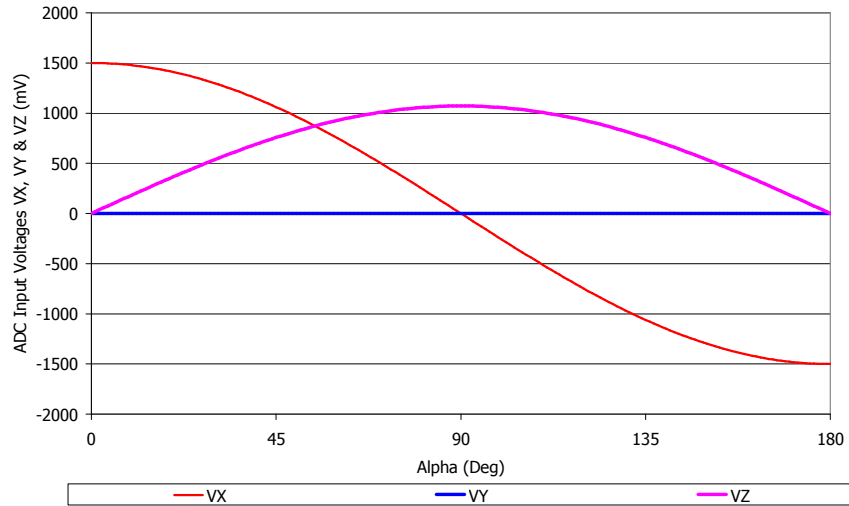
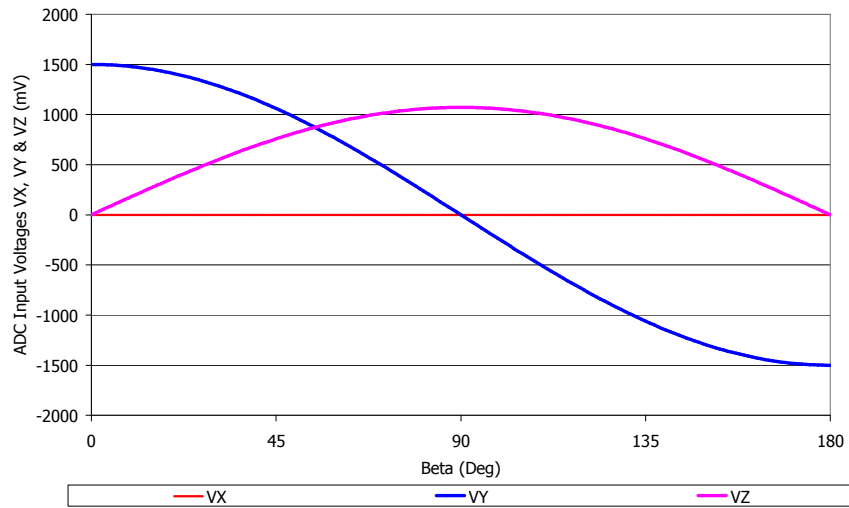

Figure 8 – ADC Input Signals – $\beta = 90^\circ$ Deg – $V_X \propto B_X \propto \cos(\alpha)$, $V_Y = B_Y = 0$ & $V_Z \propto B_Z \propto \sin(\alpha)$
Figure 9 – ADC Input Signals – $\alpha = 90^\circ$ Deg – $V_X = B_X = 0$, $V_Y \propto B_Y \propto \cos(\beta)$ & $V_Z \propto B_Z \propto \sin(\beta)$
Three (3) differential voltages corresponding to the three (3) components of the applied flux density are provided to the ADC (Analog-to-Digital Converter – Figure 8 and Figure 9). The Hall signals are processed through a fully differential analog chain featuring the classic offset cancellation technique (Hall plate quadrature spinning and chopper-stabilized amplifier).